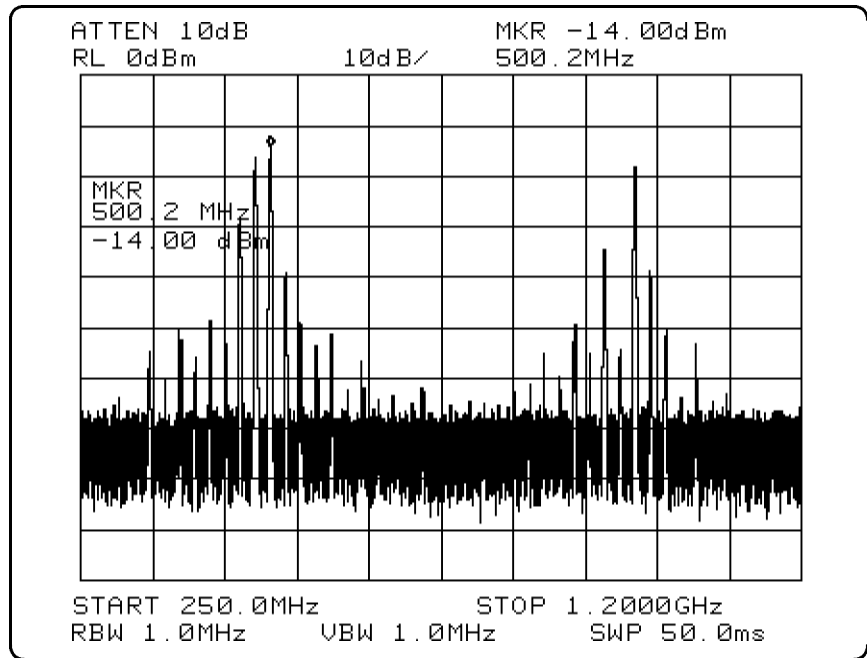

Figure 2-20.
2. Set the signal generators to CW frequencies and power levels that are appropriate to the mixer under test. Figure 2-20 shows an example of a typical spectrum analyzer display of a mixing products measurement.